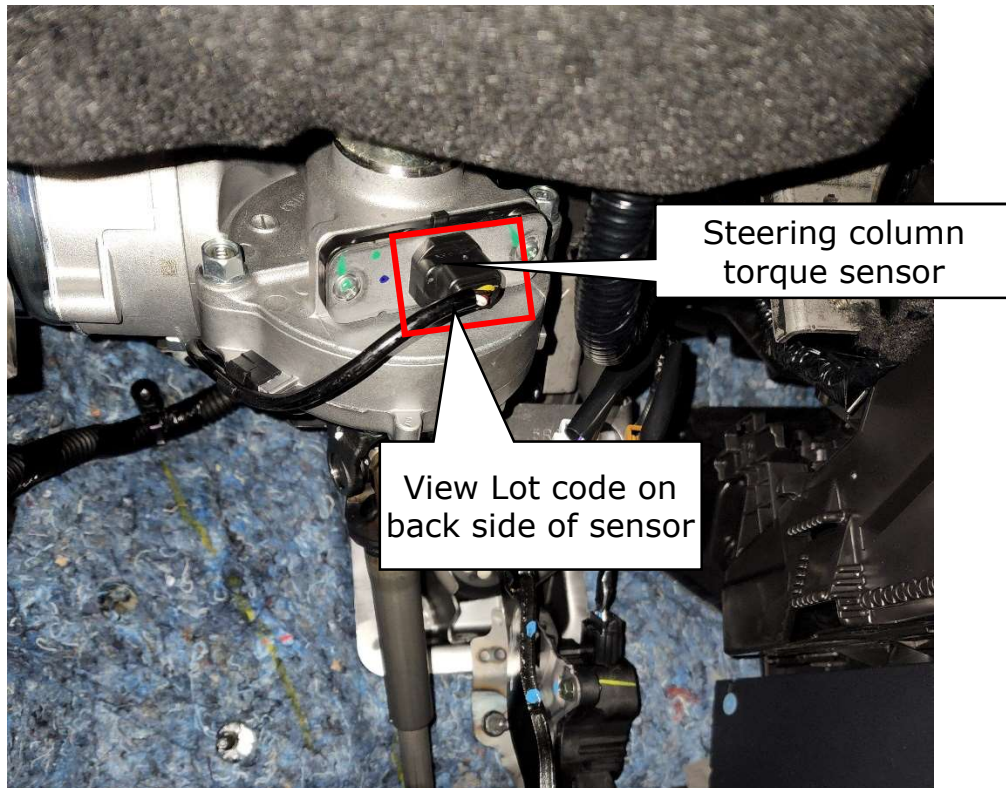

Figure 10
9. Locate the steering column torque sensor. (Figure 10)